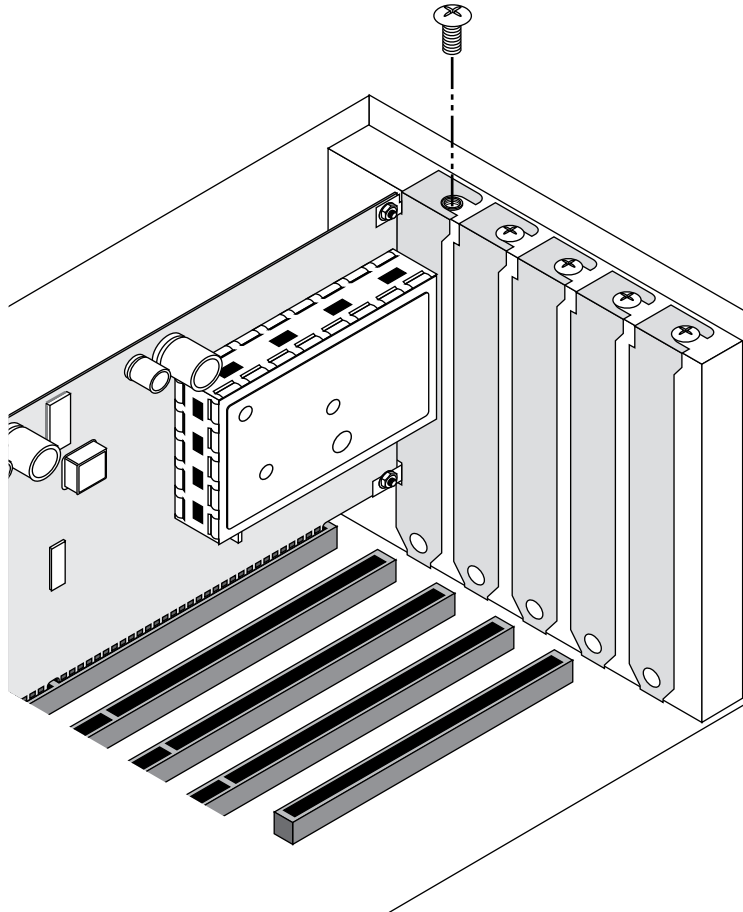

Figure 2-9. Installing the cover plate screw
10. Secure the adapter to the expansion slot with the screw you removed from the cover plate (see figure 2-9).